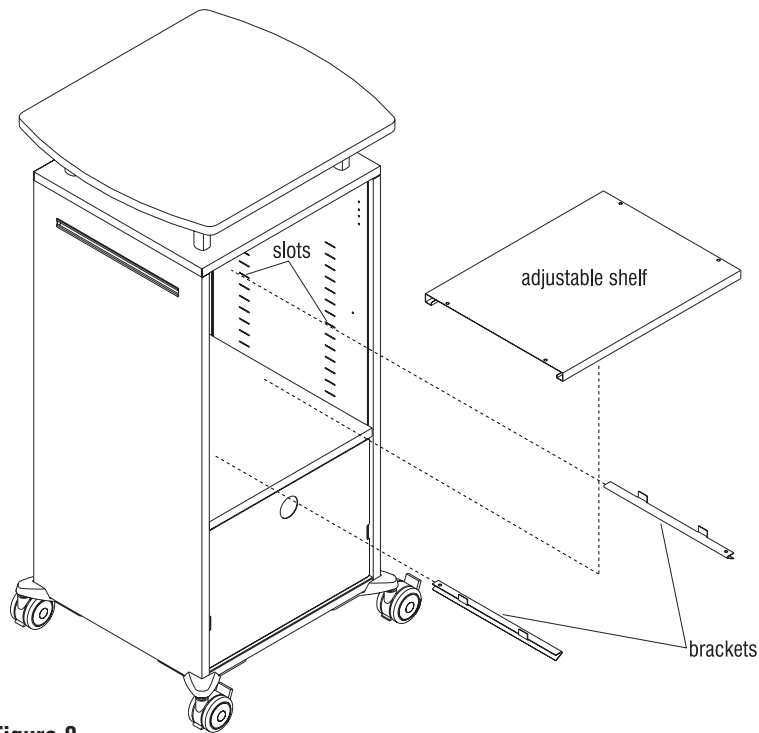

Figure 8
2. Hook the shelf brackets into the slots at the inside of the cabinet as illustrated. Make sure the brackets are at the same height on both sides (Figure 8).
3. Install the shelf by setting it onto the brackets. Make sure the shelf is pushed all the way back into the cabinet (Figure 8).